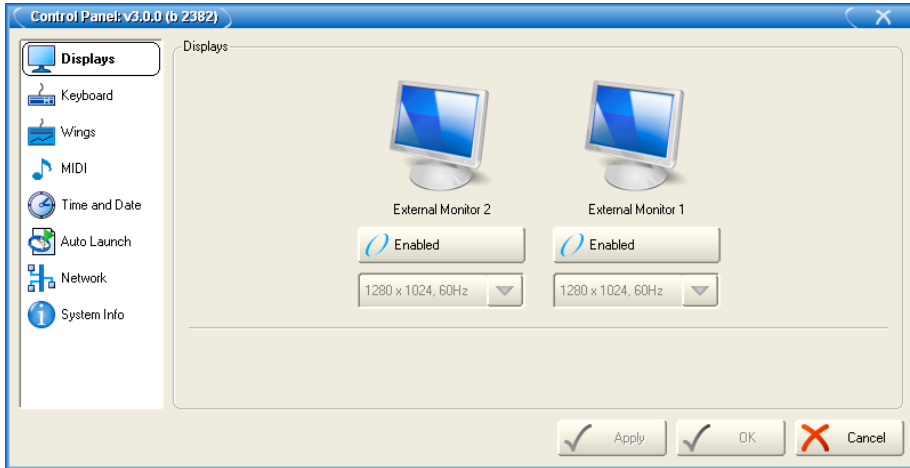

Figure 6.5. The Displays Pane of the Control Panel
3. Select a resolution for the displays from the drop-down menu; see *Figure 6.5, "The Displays Pane of the Control Panel"*.